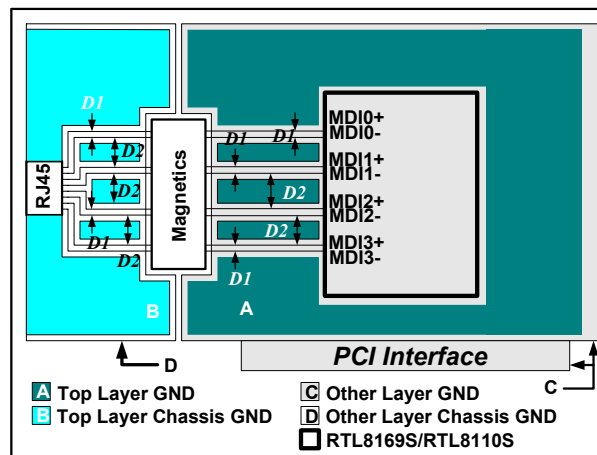

Figure 2. Signal & Trace Routing
- Traces routed from the RTL8110S/RTL8169S to the 10/100/1000M Magnetic, and to the RJ-45 connector should be as short as possible. The 12cm maximum length between the RTL8110S/RTL8169S and Magnetic is achievable only when there is no interference. It is also very important to keep all four differential pair signal traces (MDI0+/-, MDI1+/-, MDI2+/-, MDI3+/-) equal in length. The two traces of each pair should be placed close to each other (D1) since they are differential pair signals to each other and provide a strong canceling effect on noise. The D1 can be the width of each of the two differential traces. E.g., if the width of the trace is eight mils, then D1 can be 8 mil wide. (Figure 2)
- We also suggest that there should be more than 50 mil spacing between different differential pairs to minimize cross-talk coupled from other pairs. (D2 in Figure 2) In addition, Ground Plane shielding can be used to separate all four signal pairs. However, a good layout should avoid the following situations: